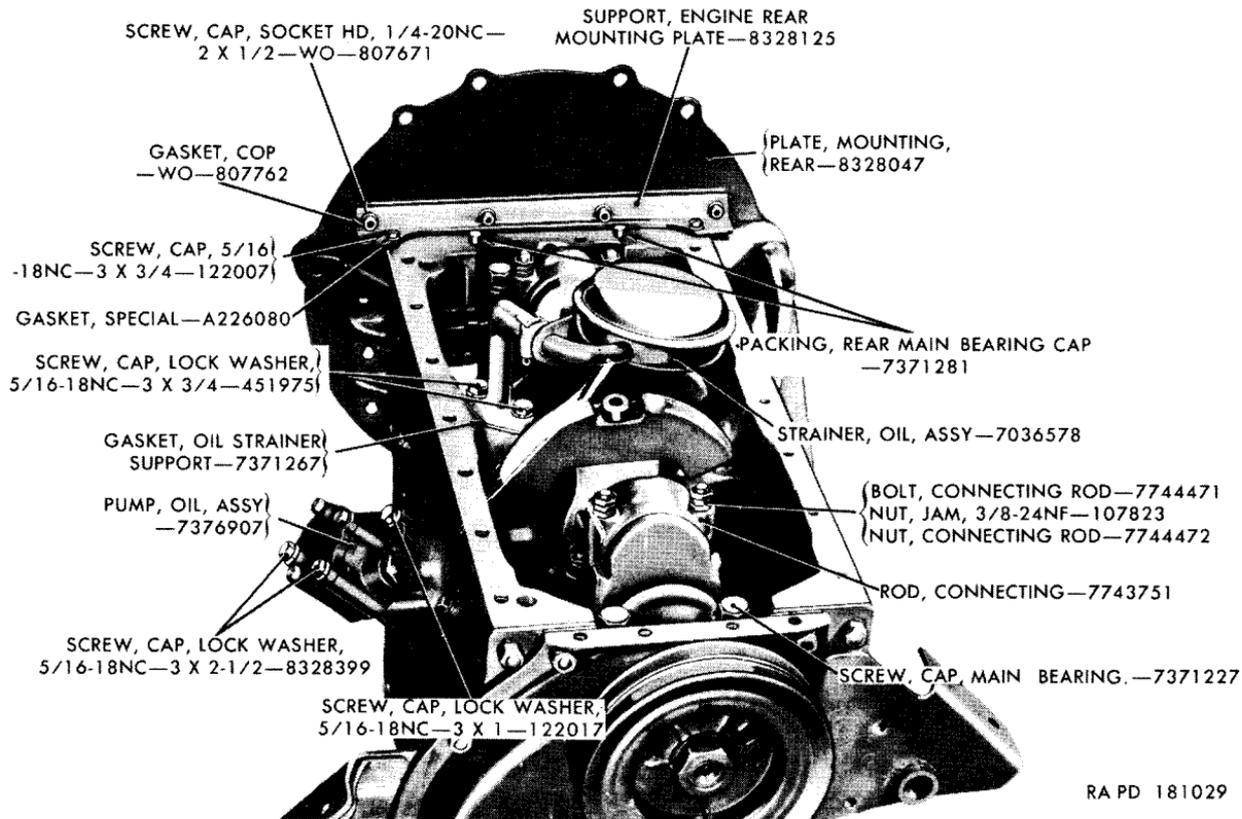
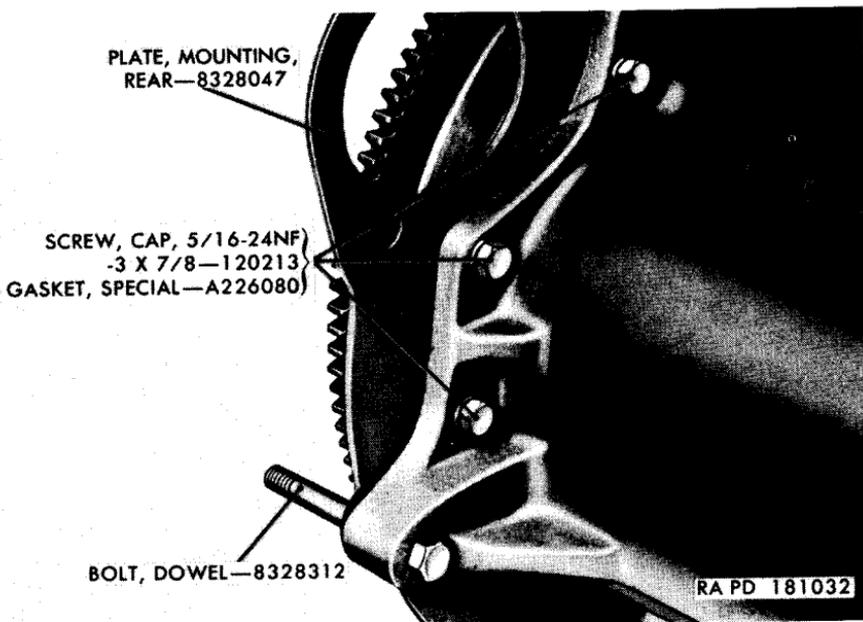

Figure 18. Bottom view of engine with oil pan removed.
Figure 21. Location of rear mounting plate cap screws—right side of engine.
(fig. 18)
Remove the eight cap screws (figs. 21 and 22), three on each side, and two holding engine rear mounting plate support (fig. 18) to the rear end of the cylinder block. Remove the plate and gasket.
Remove the jam nuts (fig. 18) and hex nuts from the lower end of each connecting rod. Remove the cap of the connecting rod main
Pull the two pieces of rear main bearing cap packing (fig. 18) up and out of their position between the bearing cap and the cylinder block. Remove the cap screws and lockwashers securing the main bearing caps to the cylinder block. Remove the bearing caps with the half main bearings in the caps and lift the crankshaft (B) out of the cylinder block. Remove the half main bearings from the bearing caps and the half main bearings from the cylinder block. Remove the bearing dowel pins (J), one each from the center and the rear main bearing caps (G and L), and one each from the front, center, and rear main bearing bores in the cylinder block. Remove the upper half of the rear main bearing oil seal (E) from the cylinder block and the lower half from the oil seal groove in the rear main bearing cap.